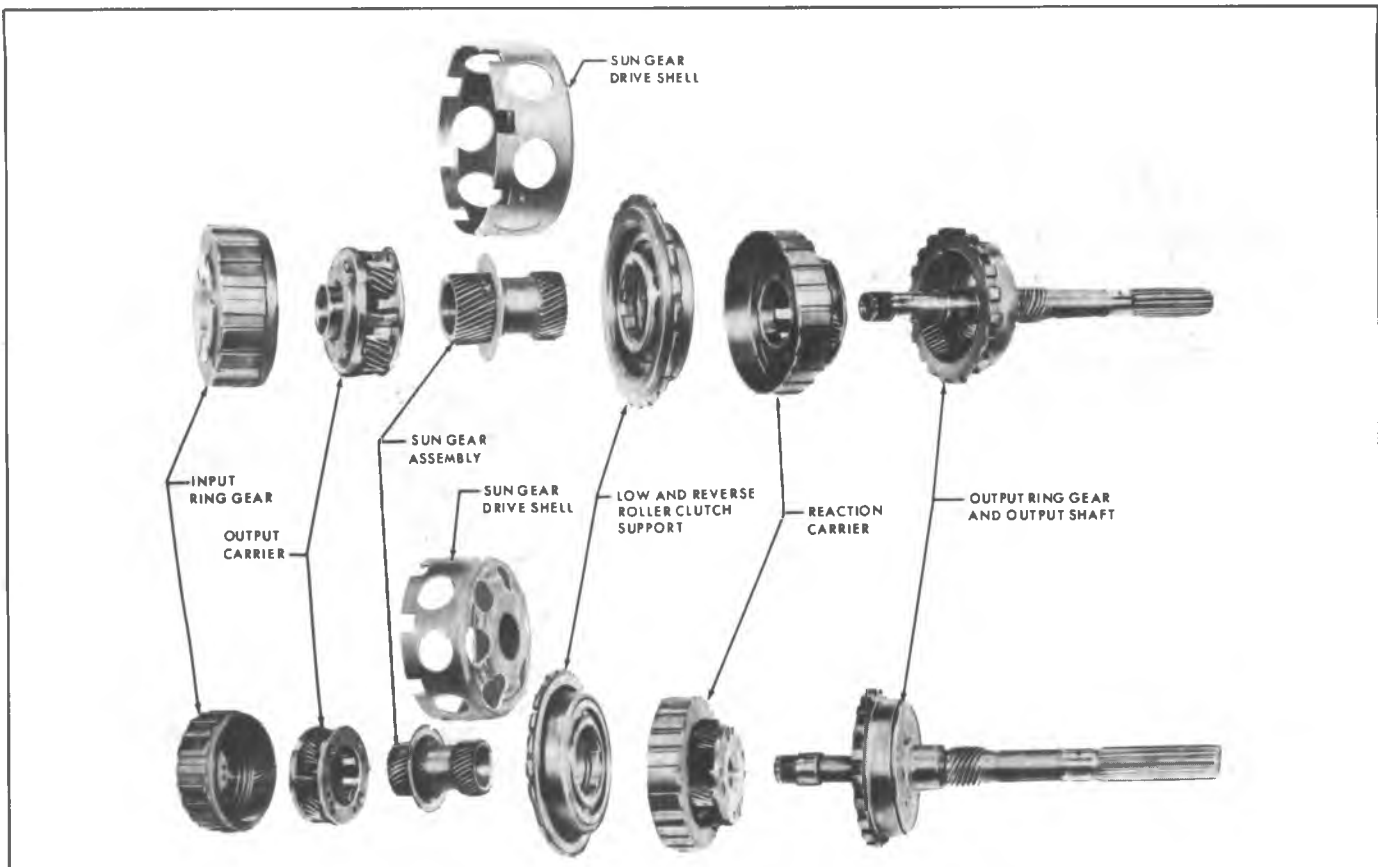

Figure 7A5-69 Planetary Gear Train-Exploded View
4. Remove low and reverse roller clutch assembly. (Figure 7A5-75)